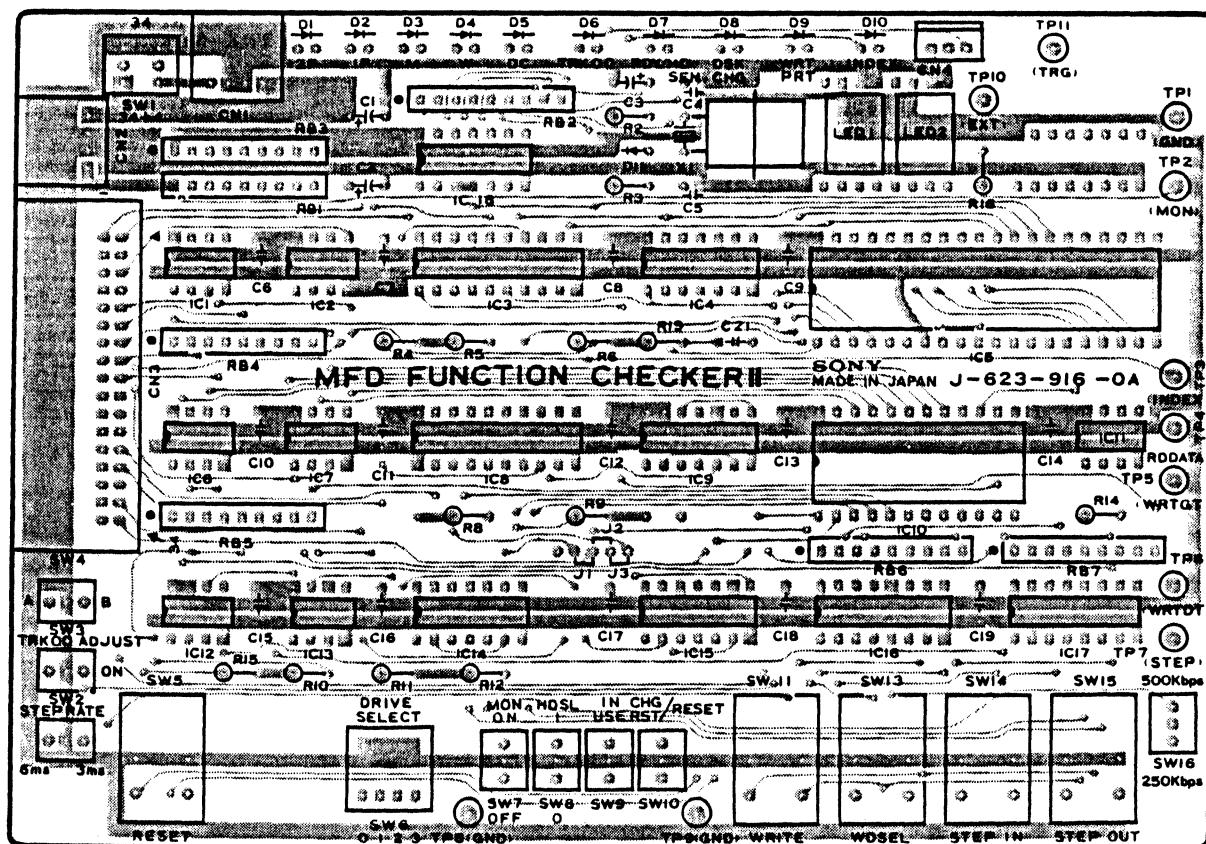

Fig. 2-2 Part Layout on MFD Function Checker II
(3) Part Layout and Circuit Diagram on MFD Function Checker II. (Refer to Fig. 2-2, 2-3)